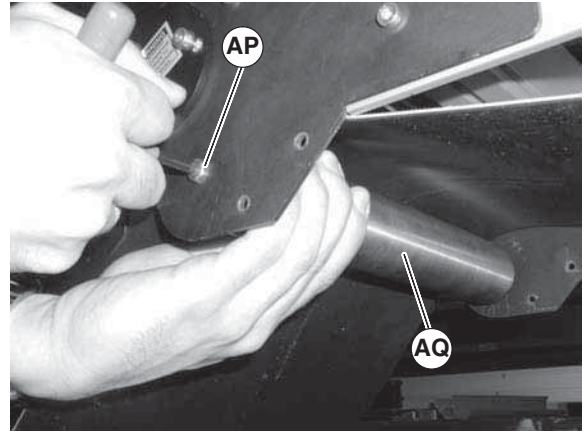

Figure 19
4. Push in hex posts (Figure 19, item AP) and remove roller (AQ).